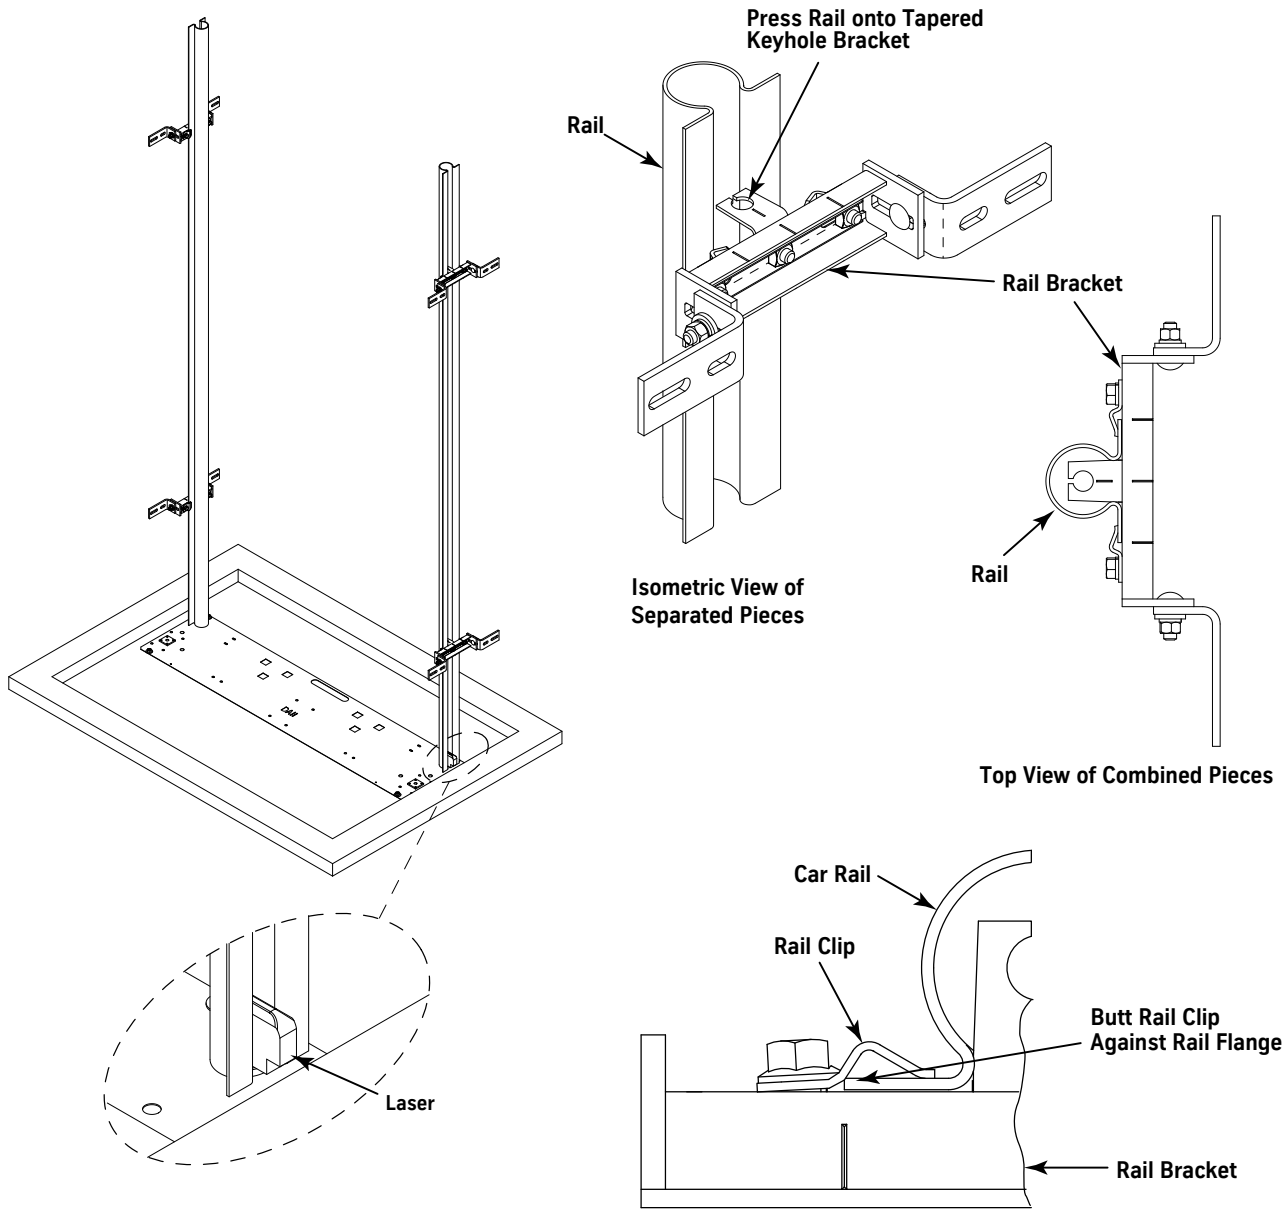

Figure 36 - Car Rail Installation
2. Press the rail onto the tapered keyhole brackets. See Figure 36.